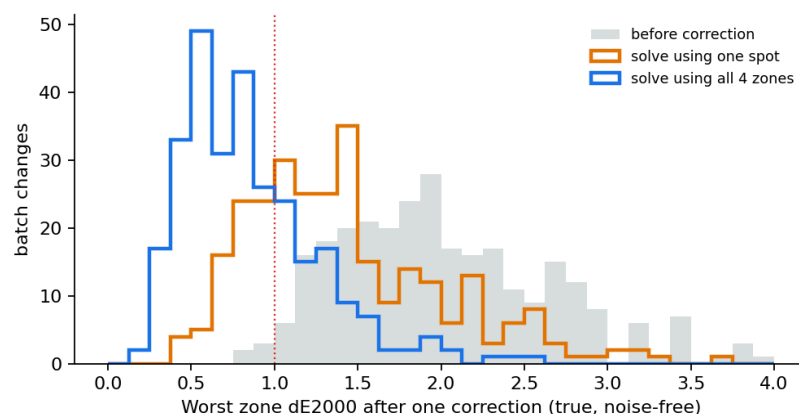

Fig. B2: one correction solved from a single spot vs from all 4 zones (true colour after firing).
- Measure every colour zone, not one spot.** Solving from a single spectro spot fixes only that spot: 26% of batch changes in tolerance after one correction, against 70% using all 4 zones (fig. B2). This probably explains "it looked right in the lab and wrong on the floor".